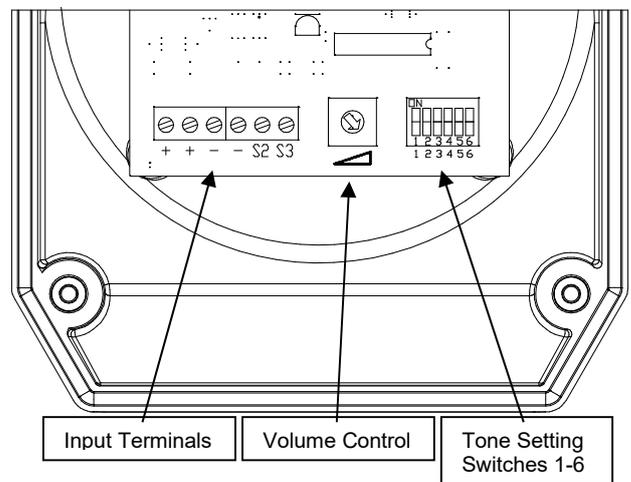

Fig 2 Location of field terminals and controls.
- Remove the PVC grommet and fit a 20mm cable gland or conduit entry into the hole in the enclosure and connect the field wiring to the appropriate sounder terminals as shown in section 6 and fig 2 of this manual. The power supply terminals + and - are duplicated so that sounders may be connected in parallel, or an end of line monitoring resistor may be fitted.
- Select the required output tone by positioning the 6-way DIP switch as shown in Table 1.0 and Fig 2.
The output level of the IS-D105 sounder can be set by adjusting the volume control potentiometer (see Fig 2).
Tone Selection – To select the required first stage tone set the tone switches 1 to 6 (see Fig 2) to the tone setting shown in the table below. The table also shows which 2nd and 3rd stage tones are available for use with the selected first stage tone if more than one tone output stage is required.